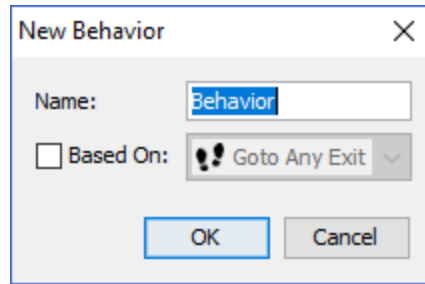

Figure 107. New Behavior dialog
1. Right click the **Behaviors** node from the Navigation View, and from the right-click menu, click **Add a Behavior**, which will open the New Behavior dialog shown in Figure 107.